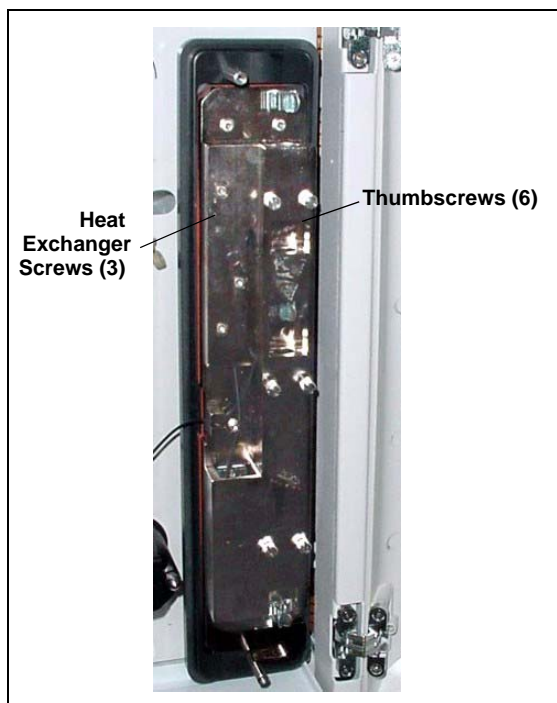

Figure 5-14. ICS-1000 Column Heater Cover Removed
5. Unscrew the six thumbscrews on the top metal plate (see Figure 5-14) and remove the plate.